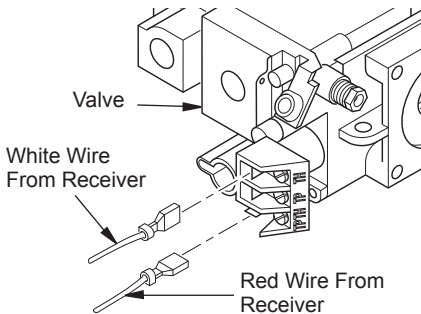

Figure 30 - Connecting Wires
6. Connect wires as shown in Figure 30.